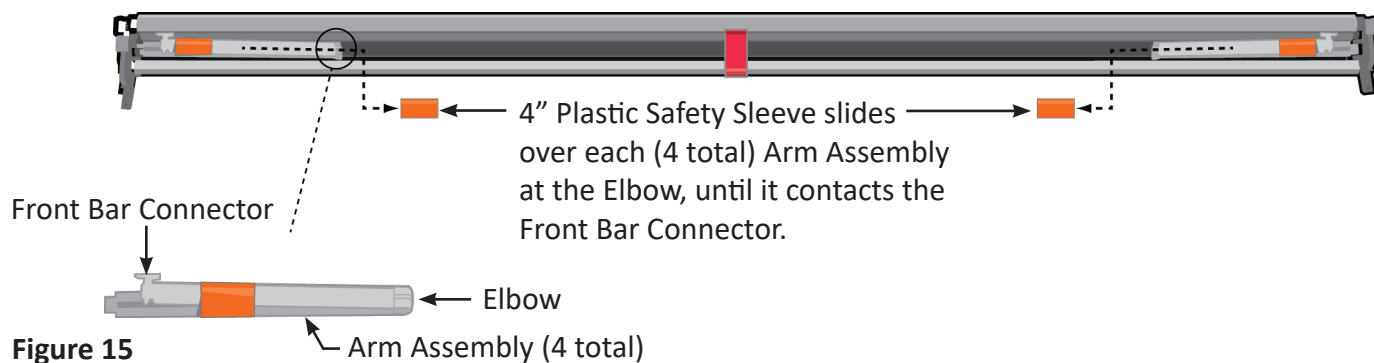

Figure 16
24. On the end of the Awning opposite the Gear Assembly, push the Front Bar down until the two sections of the Lateral Arm touch, and using a 5 mm Allen wrench, tighten the **Outside Bolt on the Front Bar Connector**. Repeat this procedure for the other Front Bar Connector. See **Figure 16**, next page.
32. On the end of the Awning opposite the Gear Assembly, locate the Front Bar Connectors that secure the Lateral Arms to the Front Bars and using a 5 mm Allen wrench, tighten the inside bolt on the Front Bar Connector on both of the Front Bars on that end of the Awning. See **Figure 16**.